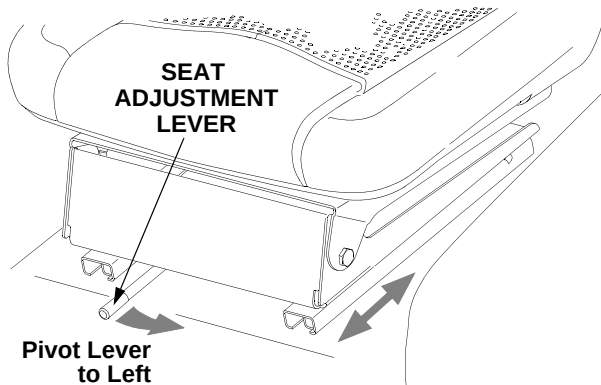

Figure 21
- After repositioning the seat, release the lever to lock the seat in position. Slide the seat either slightly forward or rearward to assure it is locked, or until engagement of the lock is felt. See Figure 21.